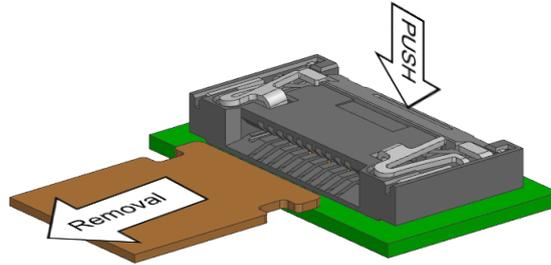

Fig 4. Image of FPC removal
33. When removing the FPC, press the button to ensure that the lock is fully open and then remove the FPC. (see Fig.4) If the FPC is removed without the lock being fully opened, check for damage to the FPC and connector before reinstalling it. If any piece of the FPC remains in the connector slot, remove it with an air blow. Do not use sharp tools like tweezers. It can lead to deformation of the terminals and damage to the connector.